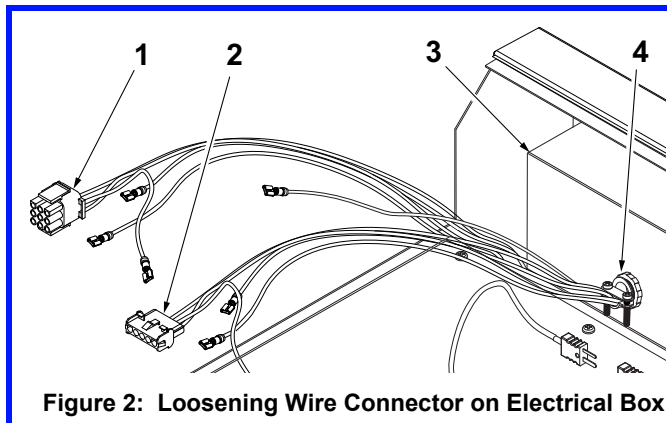

Figure 2: Loosening Wire Connector on Electrical Box
2. Loosen two screws on the 3/8" straight-through electrical connector mounted on the back side of the Warmer Cabinet Electrical Box (just behind the Header). See Figure 2.